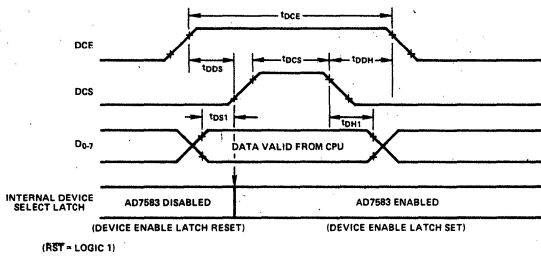

Figure 4. Setting the Device Enable Latch (Enabling the AD7583)
1. ENABLE COMMAND (See Figure 4)
Place code XXX11001 binary on D_{0-7} , put DCE HIGH, and strobe DCS. Timing requirements are shown in Figure 4.
2. DISABLE COMMAND (See Figure 4)